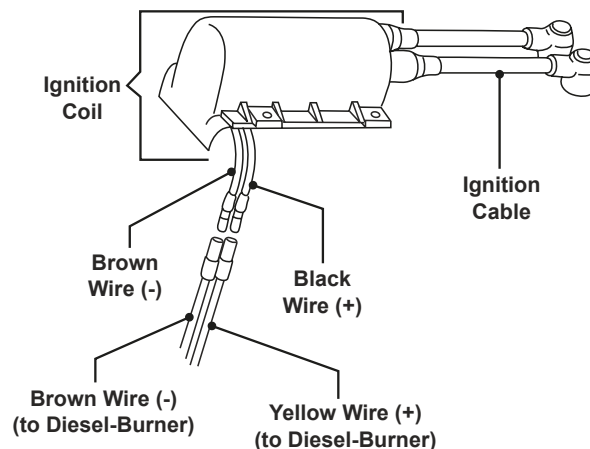

Figure 24
15. Reinstall the *Protection Cap*. Reconnect the *Black (+)* and *Brown (-)* wires of the *Ignition Coil* to the C-Plug Harness' *Yellow (+)* and *Brown (-)* wires, reference Figure 24. Reinstall the *Ignition Coil* and secure to the *Protection Cap* with the four *Ignition Coil Screws*, reference Figure 13. Reconnect the *Ignition Cables* to the *Ignition Electrodes*, reference Figure 16.
2. Connect the new Ignition Coil's *Black (+)* and *Brown (-)* wires to the C-Plug Harness' *Yellow (+)* and *Brown (-)* wires, reference Figure 24. Attach the *Ignition Coil* to the *Protection Cap* with the four *Ignition Coil Screws*, then reconnect the *Ignition Cables* to the *Ignition Electrodes*.